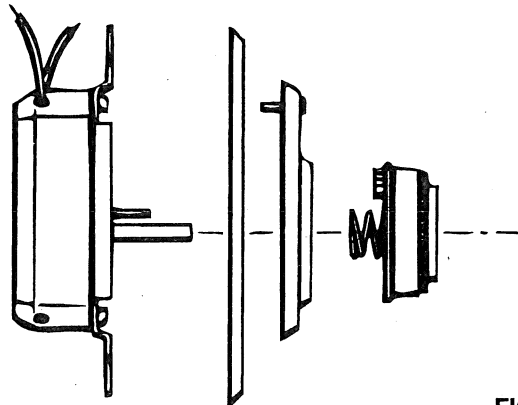

FIGURE 2
6. Align switch plate with timer bracket (upper screw hole of plate over the red indicator light). (See Fig. 2)